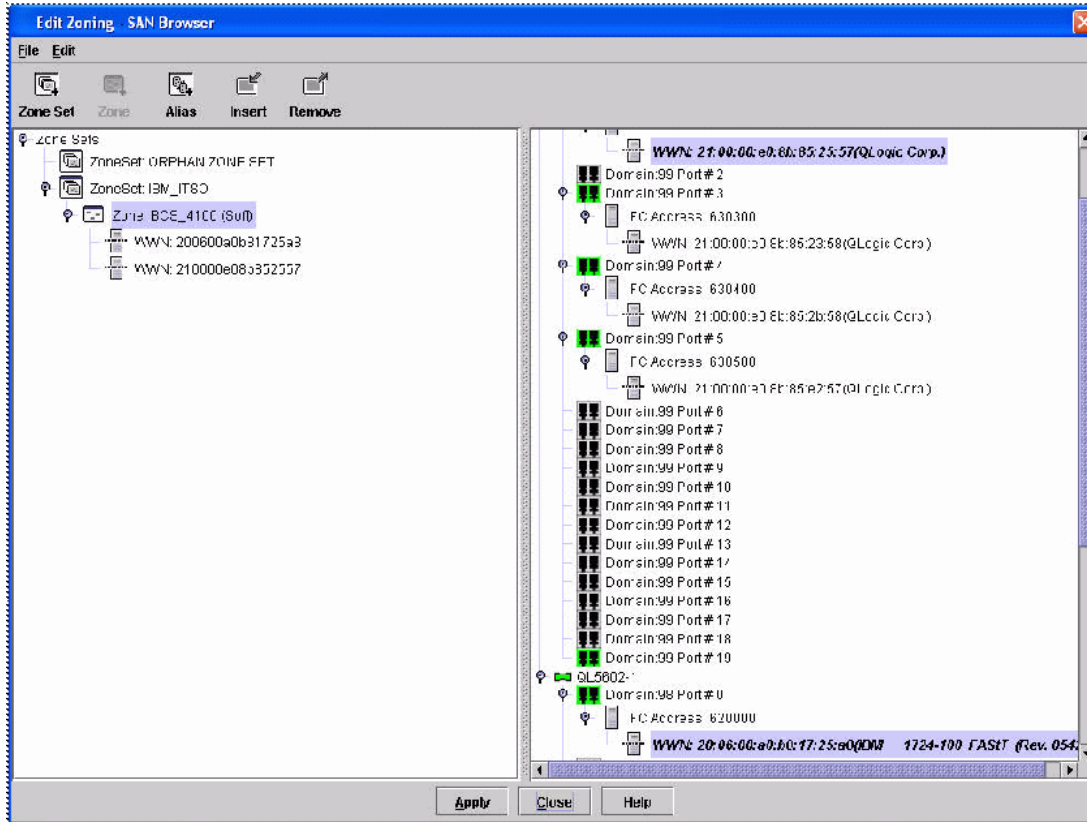

Figure 7-32 Edit Zoning - SAN Browser window
23. Click the **Close** button to exit the Edit Zoning dialog window (Figure 7-32 on page 195).